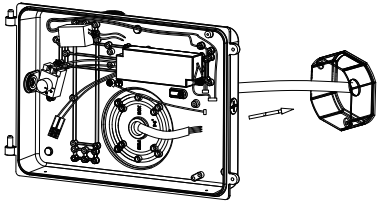

Fig. 1-3A
3. Loosen the plug on the bottom plate, then put the wiring through the hole, screw the bottom cover with junction box on the wall.(Fig. 1-3A&B)